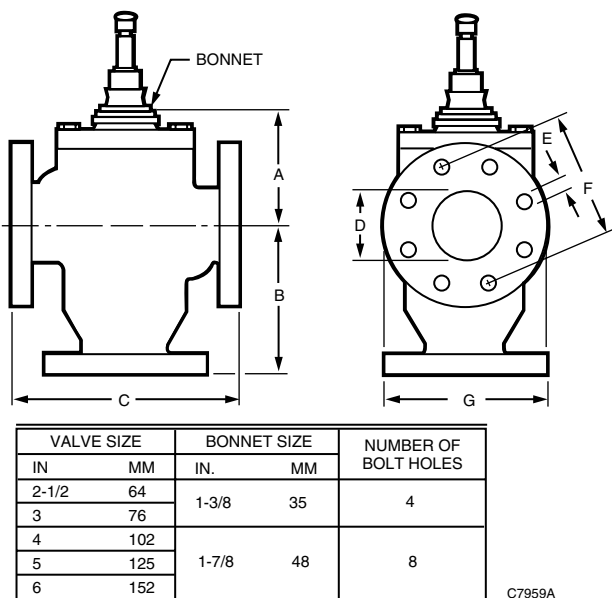

Fig. 1. V5013B,C Flanged Body Dimensions.
See Fig. 1 and 2 and Table 2.
| V5013B,CFig. 1 | 2-1/2            | 4-1/2 (114) | 6-7/16 (164)   | 9-1/2 (241)  | 2-1/2 (64) | 3/4 (19) | 5-1/2 (140) | 7 (178)     |